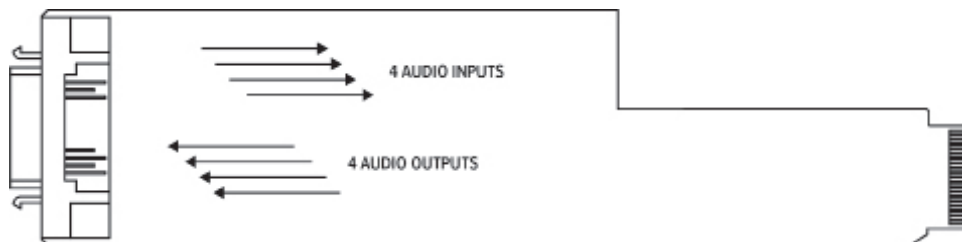

Figure 8. Sample Analog Audio Transceiver Card Signal Flow (4 Analog Audio Inputs, 4 Analog Audio Outputs).
- A sample of the Analog Audio Transceiver Card signal flow is shown in Figure 8.
1. Analog Audio Only, see Figure 8,